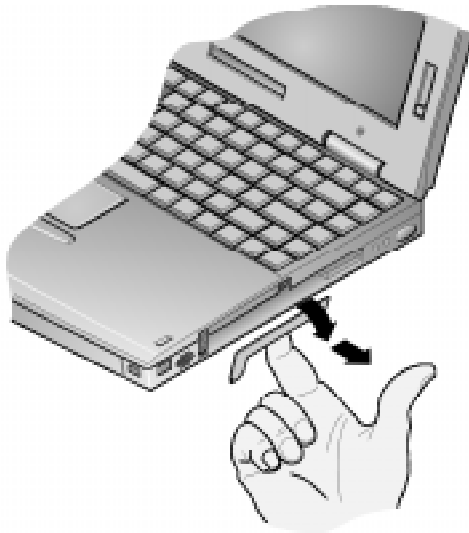

Figure 5-8. Removing the UMI Slot Cover
5. Remove the UMI slot cover (Figure 5-8).